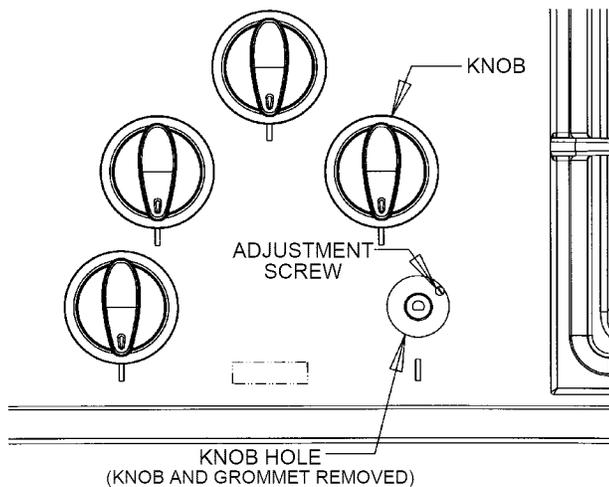

FIGURE 12
**C. LOW FLAME ADJUSTMENT (See figure 12)**
3. Locate the valve adjustment screw. See figure 12.
4. Locate the valve adjustment screw. See figure 12.